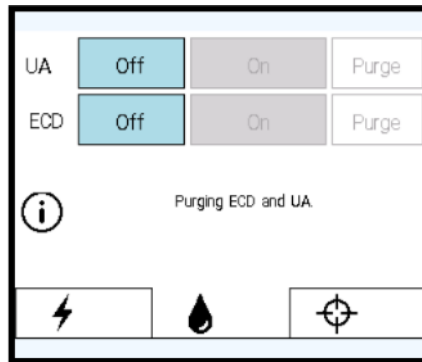
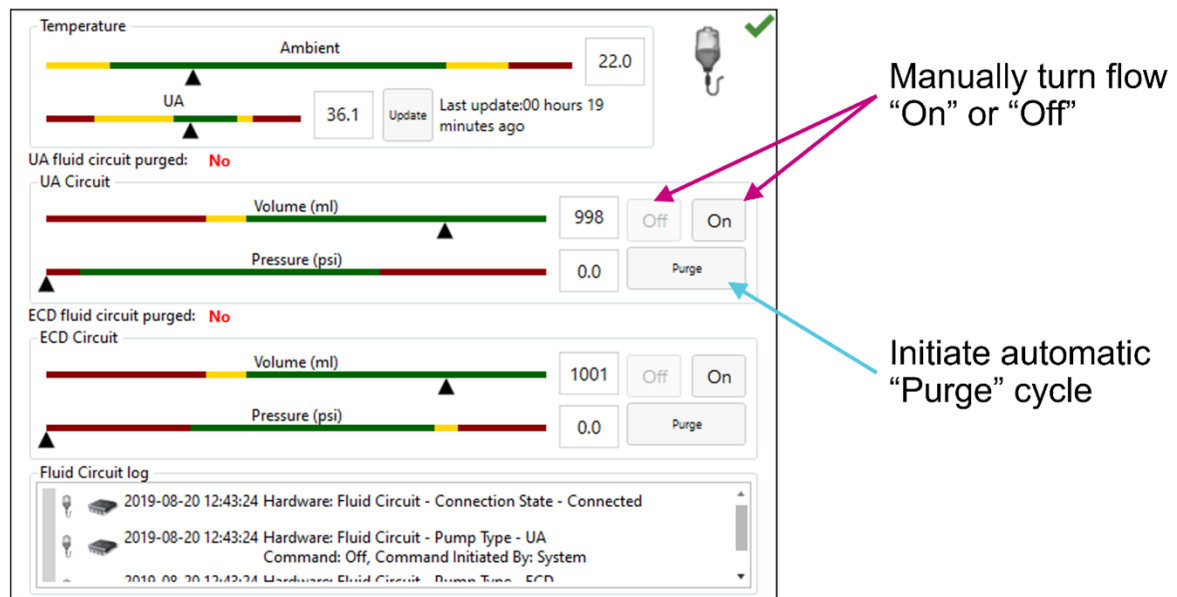

Figure 7: PSIB Display - Fluid Circuit tab
Figure 8: Fluid Circuit information box in TDC Setup workspace
4. On the PSIB display, choose the **Fluid Circuit** tab (Figure 7) and **Purge** the UA and ECD fluid circuits. You can also do this from the TDC by pressing **PURGE** beside the fluid circuit (FC) quadrant (Figure 8).
- a. If the purging cycle ends before completing the steps in this process, return to the PSIB display (or TDC window) and manually turn the flow on by clicking **On**. The fluid pumps will remain on until you click **Off** (Figure 8).